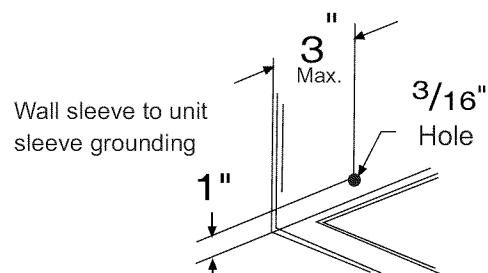

Fig.2
- If not existing, drill a 3/16" clearance hole for grounding screw through left side of wall sleeve, in a clear area about 3 inches maximum back from front edge of sleeve, using grounding screw and toothed washer. Pull loose end of ground wire out front of sleeve, and temporarily bend it down and around lower edge of sleeve (Fig.2). This ground wire will later be attached to frame of air conditioner once it is installed.